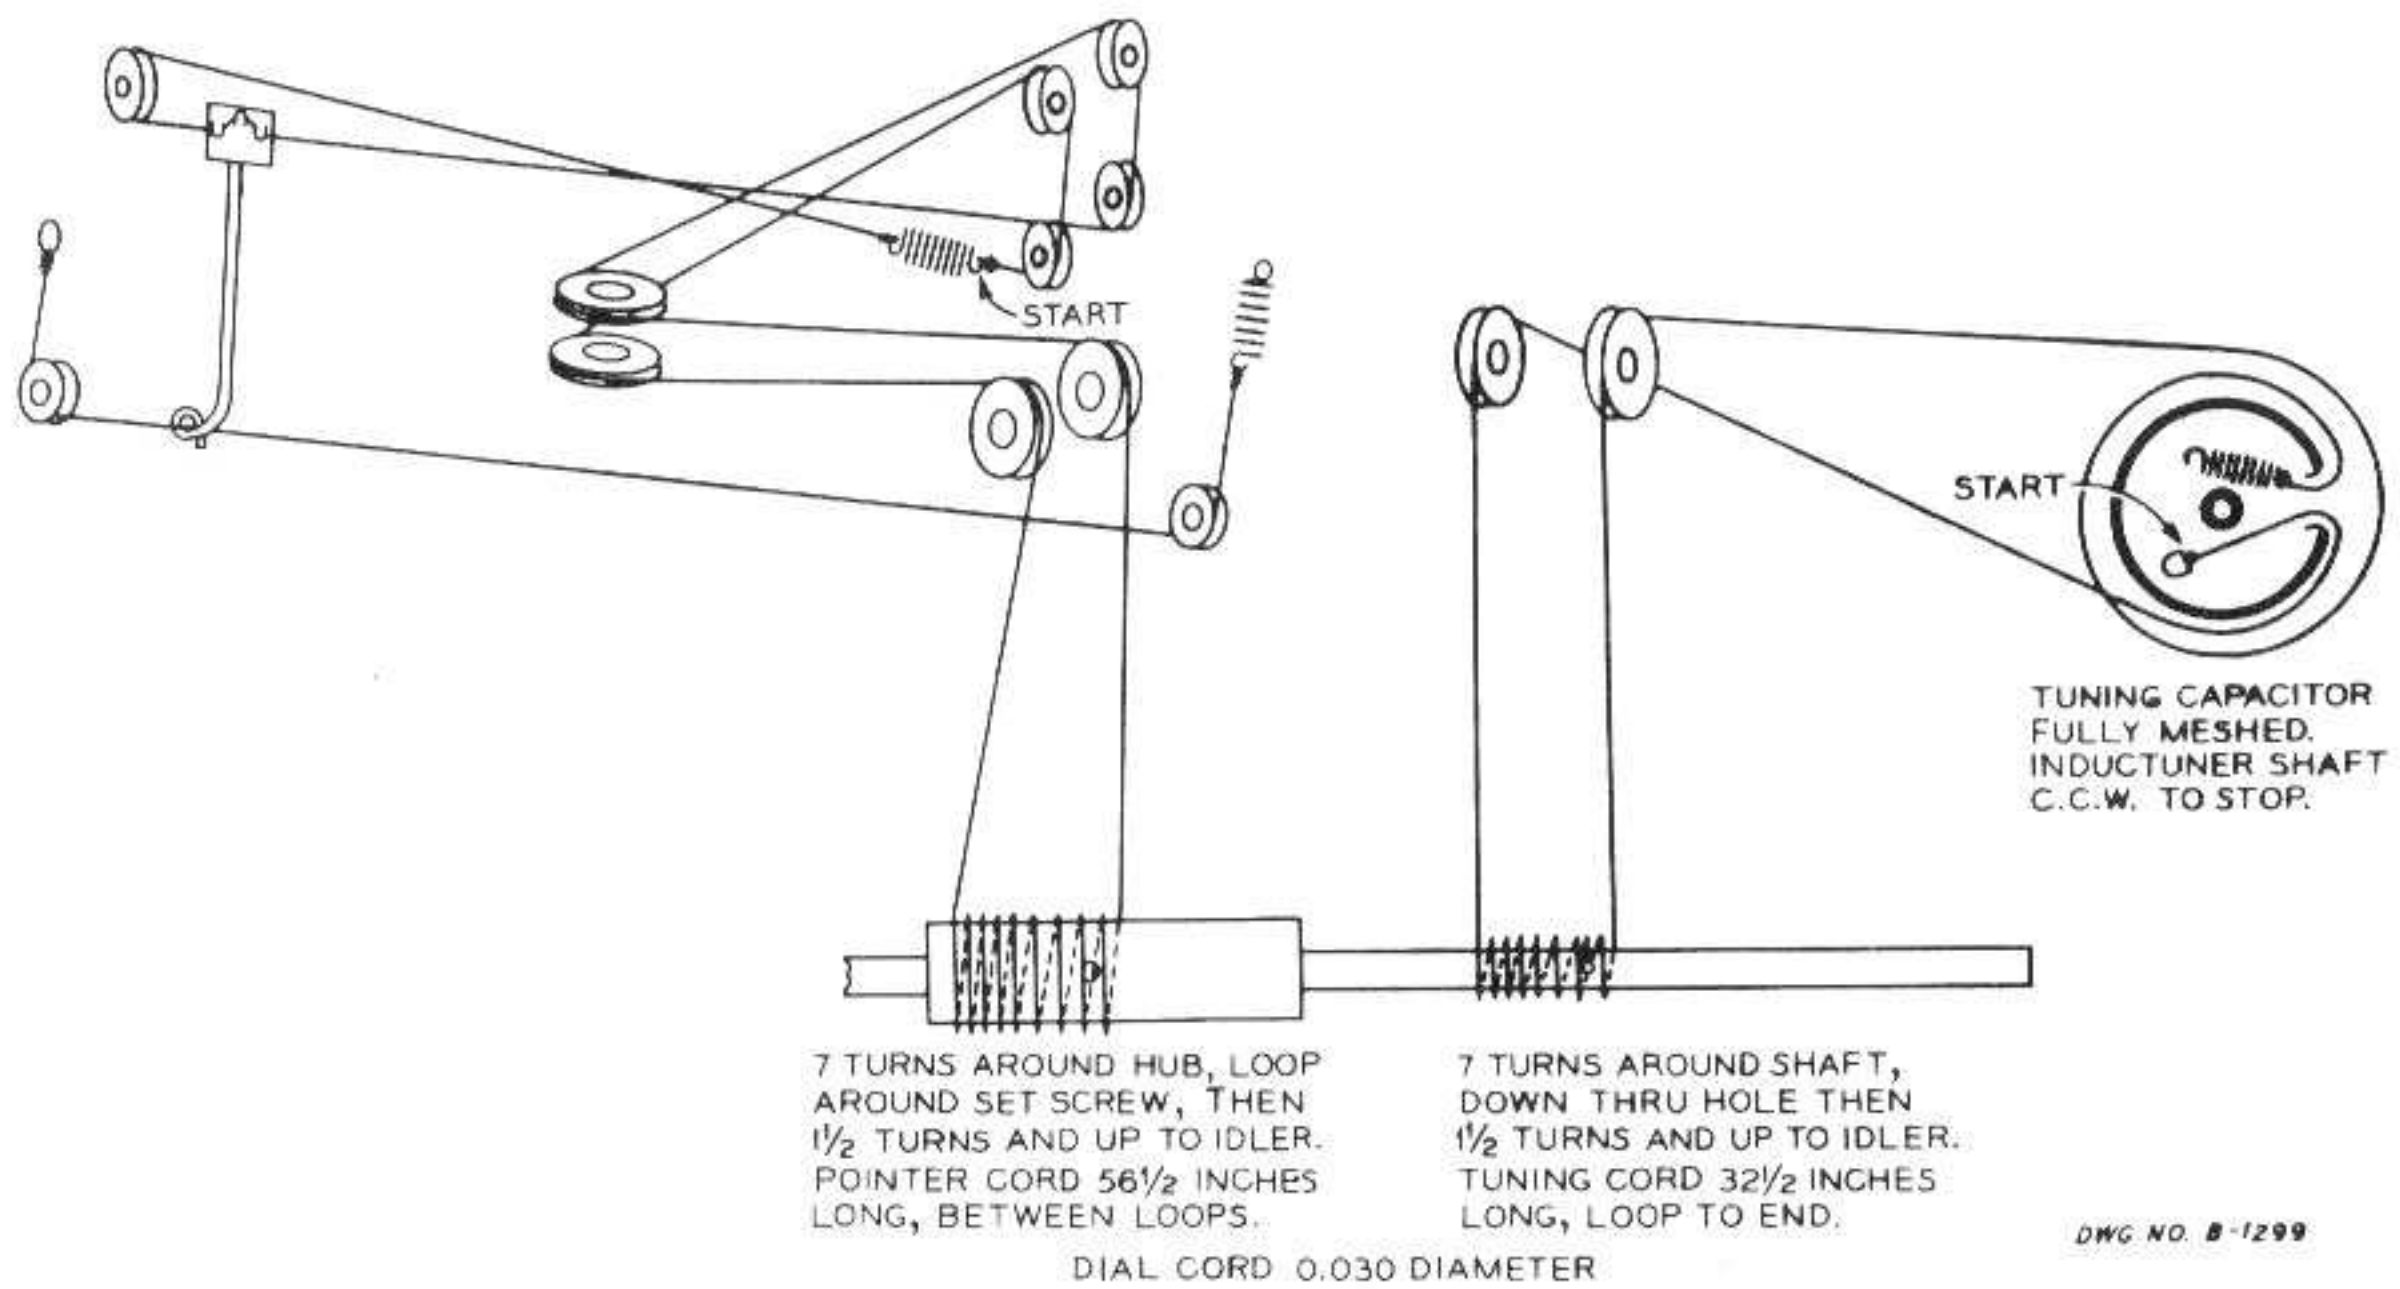

Figure 15
6.4 Dial Cable Re-stringing. On rare occasions, the dial cable will require tightening or replacement. The diagram below (Figure 15) will aid in correcting